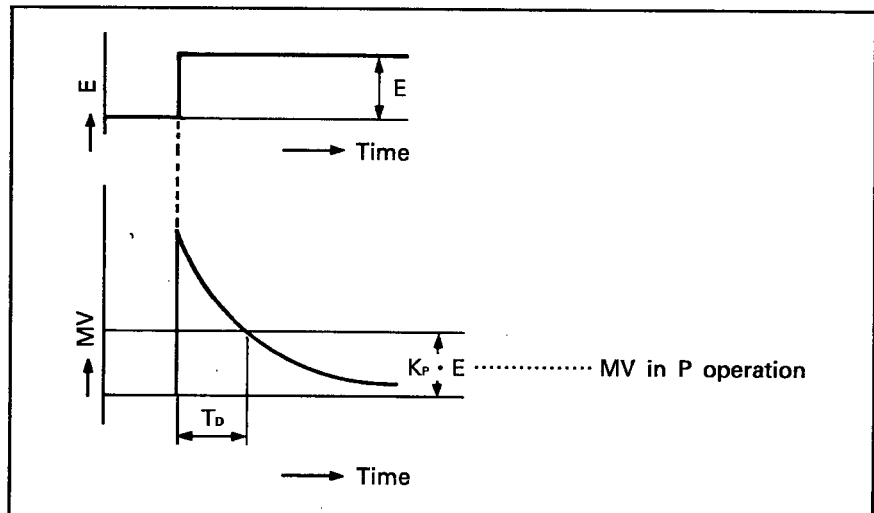

Fig. 4.4 Differentiating Operation with Constant Error
- (3) The differentiating operation in step response with a constant E (error) is illustrated in Fig. 4.4.